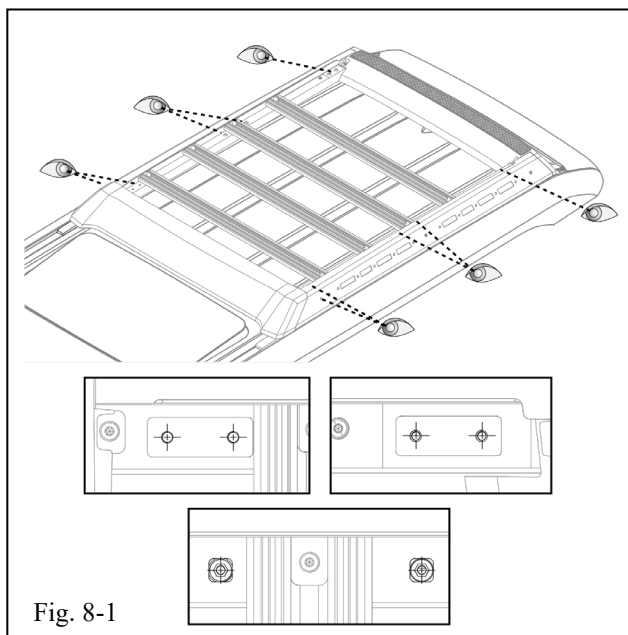

Fig. 8-1
- (a) Visually check that the holes on the roof rack align with the holes on the stanchions. Adjust if necessary. (Fig. 8-1).